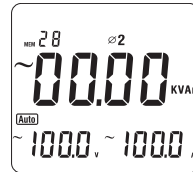

Figure 18
- Then press **SELECT** again to choose the second phase  $\varnothing 2$ , see figure 18.